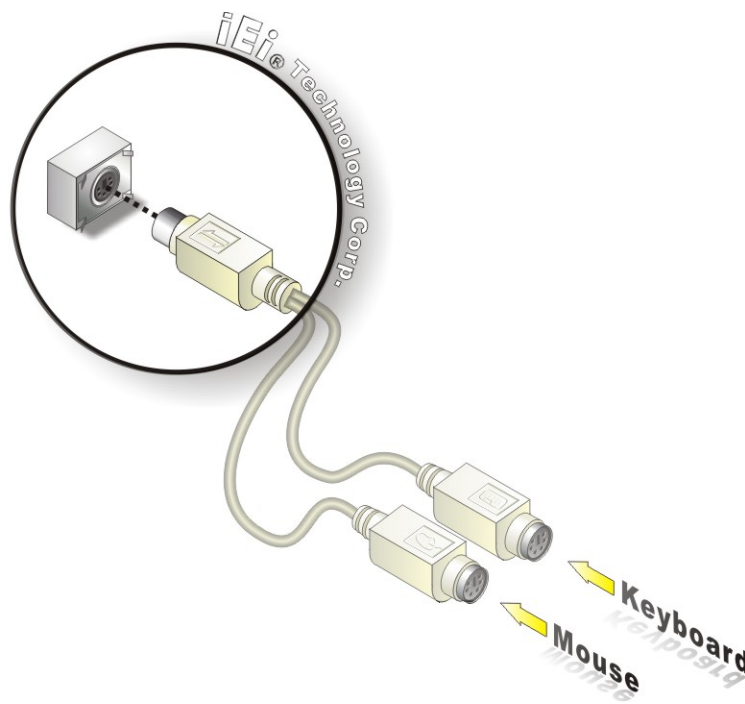

Figure 4-17: PS/2 Keyboard/Mouse Connector
Step 2: Insert the keyboard/mouse connector. Insert the PS/2 connector on the end of the PS/2 y-cable into the external PS/2 connector. See **Figure 4-17**.